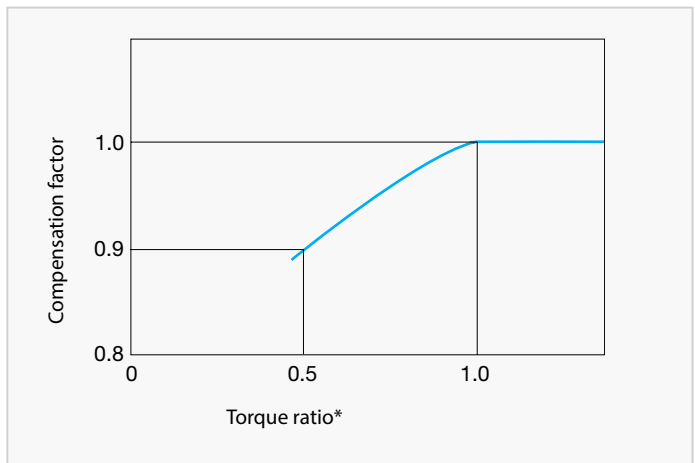

Fig. A4 Compensation curve for efficiency
Note 1. The efficiency changes if the load torque does not match the nominal torque. Check the compensation factor in the diagram Fig. A4.
2. When the torque ratio is over 1.0, the compensation factor for efficiency is 1.0 (diagram Fig. A4).